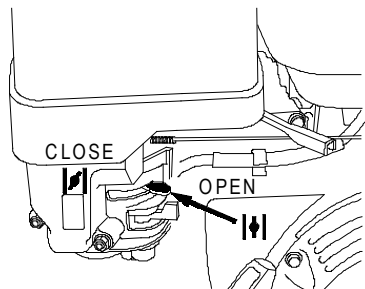

fig. 14
- Move the CHOKE LEVER to the CLOSE position (fig. 14)